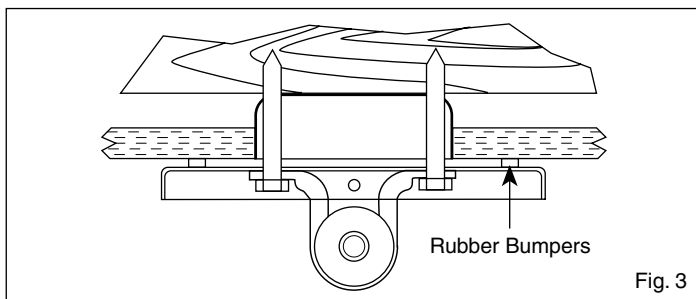

Fig. 3
- D.** Drill (2) $\frac{1}{4}$ " diameter holes $2\frac{5}{16}$ " apart through the back of the outlet box. There may already be two holes at the correct spacing, but they will probably have to be enlarged.
- E.** Use the (2) bracket screws to secure the hanger bracket and canopy plate to the joist as shown in Figure 3. Install rubber bumpers into canopy plate and rubber bushing into hanger bracket before assembling the parts to the ceiling joist. Do not use lubricant on the screw threads.